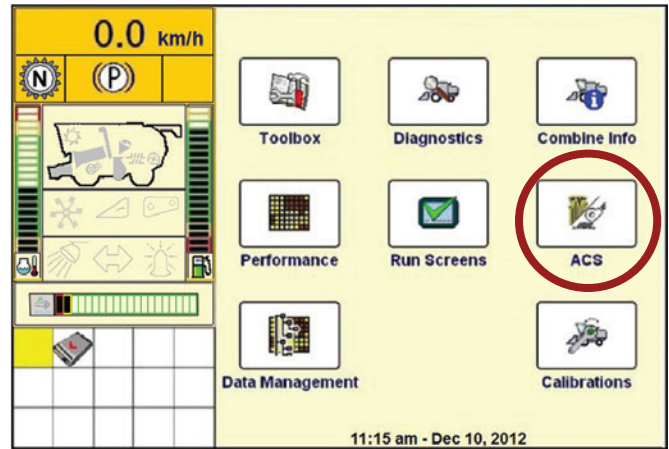

Figure 16.1
- ACS work settings page will be displayed, press “Working” (see figure 16.1)